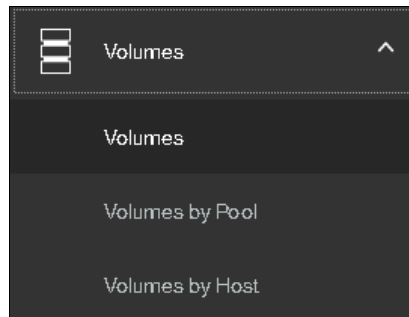

Figure 6-8 Volumes sub-menu option
2. Click **Volumes** in the sub-menu option as shown in Figure 6-8.